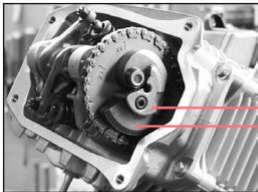

Fig. 5
- Remove the cross screw M5 **(Fig. 5 - part. 7)**, and remove the equilibration opposite mass **(Fig. 5 - part. 8)**.